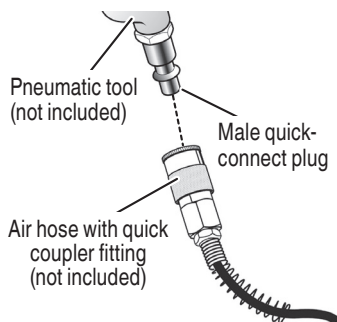

Fig. 14
- Connect the air powered tools to the air hose by inserting the male quick-connect plug to the quick-coupler at the end of the hose (Fig. 14).